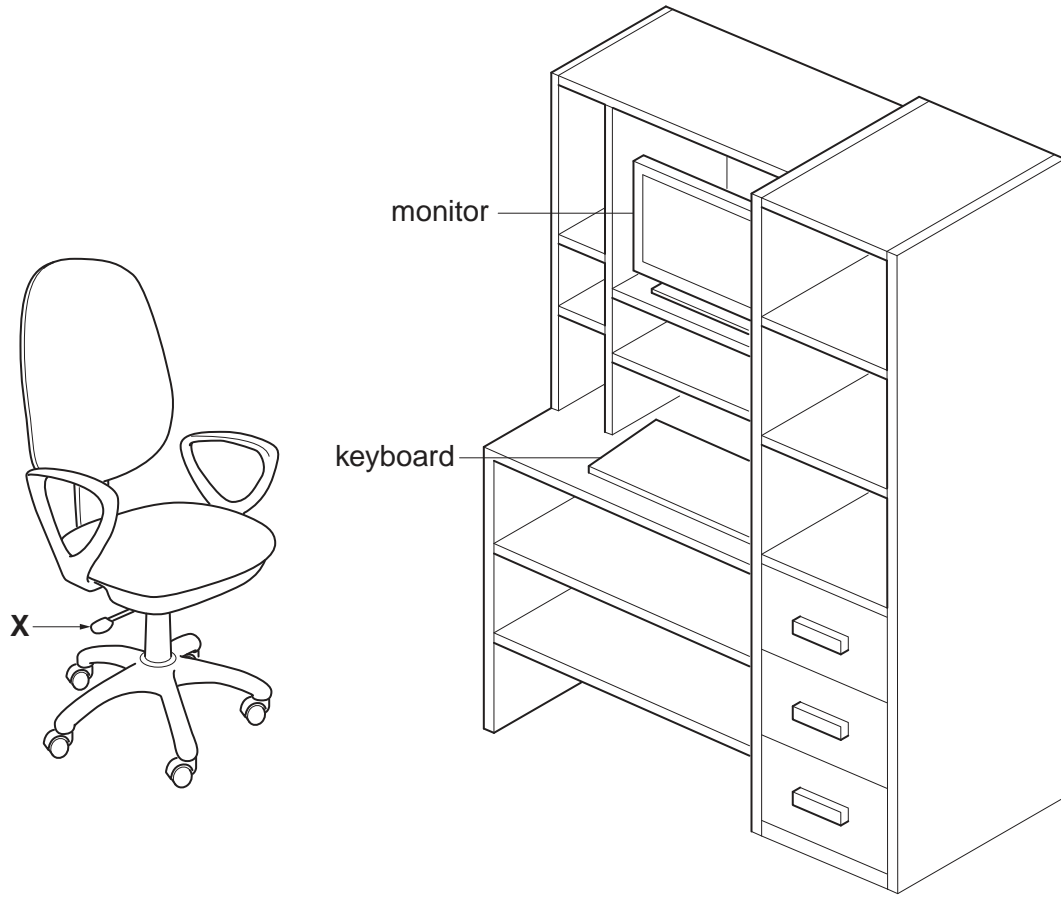

Fig. 6
- 5 Fig. 6 shows an office chair, and a proposed design for a desk to be used with the chair.
- (d) Discuss how the design of the chair shown in Fig. 6 has been influenced by its intended use.